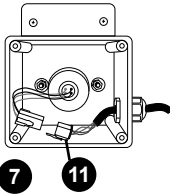

**FIGURE 2**
2. Once the UV bulb has cooled off remove the ClearRay System enclosure cover (9) and gasket (8) by removing the four screws (10). This will expose the UV bulb and connections, Figure 2.